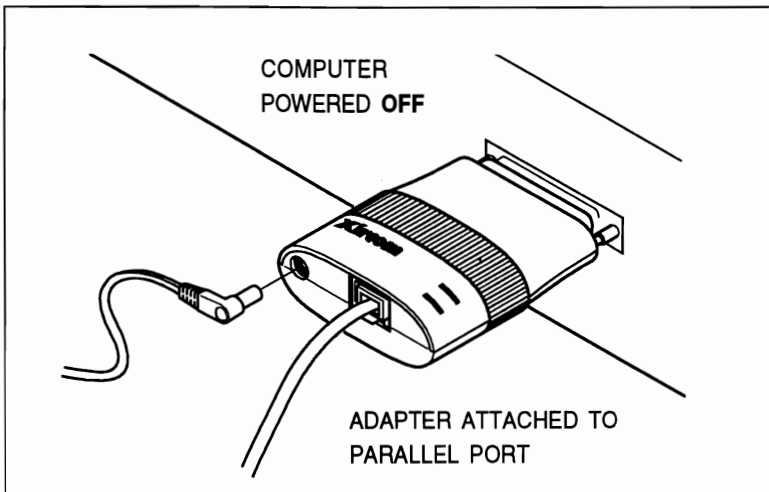

Figure 6. Plugging the Power Cable into the Pocket Ethernet Adapter III
2. Plug the L-shaped end of the AC power adapter cable into the small round socket on the Pocket Ethernet Adapter III to the left of the network connector. See Figure 6.
2. Plug the L-shaped plug on the Phantom Power Cable into the small round socket on the Pocket Ethernet Adapter III to the left of the network connector. See Figure 6.